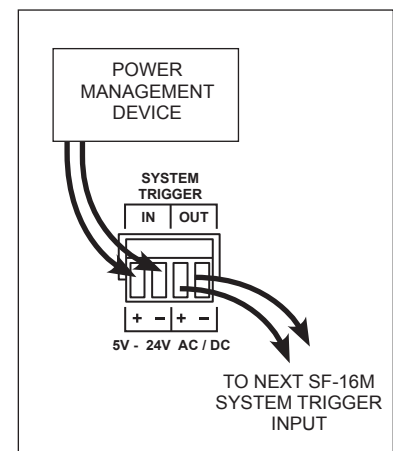
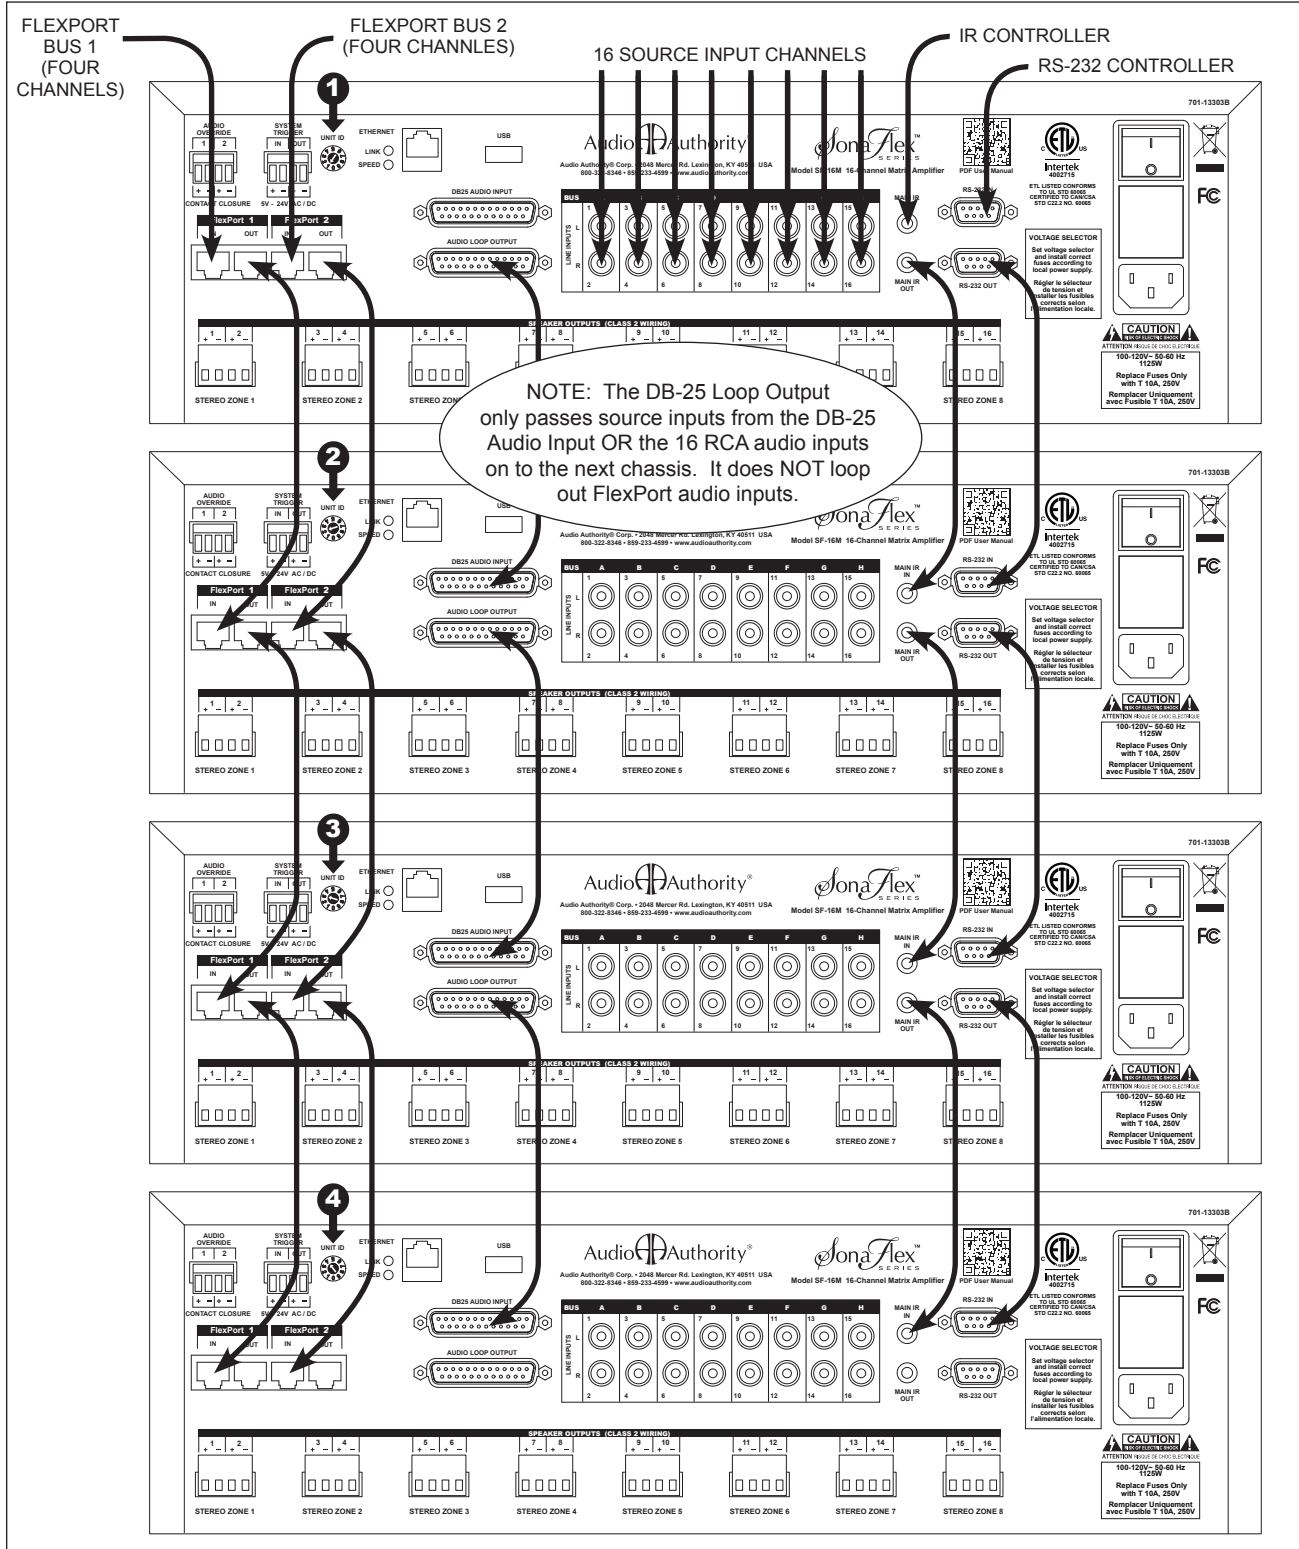

Figure 13. System trigger (5V-24V AC/DC)
Figure 14
2. Make system trigger connections as illustrated in Figure 13.
Up to four SF-16M units can be linked to function as a 64 output system. In Figure 14, the maximum number of input channels is 20; 16 inputs via RCA or DB-25, and four shared Flexport channels. Units are linked using the loop out connections for FlexPort Audio, DB-25 Audio, IR, Serial and System Trigger inputs (Figure 13). Set the Unit ID as shown, incrementing from top to bottom. All SF-16M units can share the Unit 1 FlexPort inputs, as shown, or each unit can have independent FlexPort inputs, increasing the total number of inputs to 32 (four FlexPort channels per SF-16M unit).